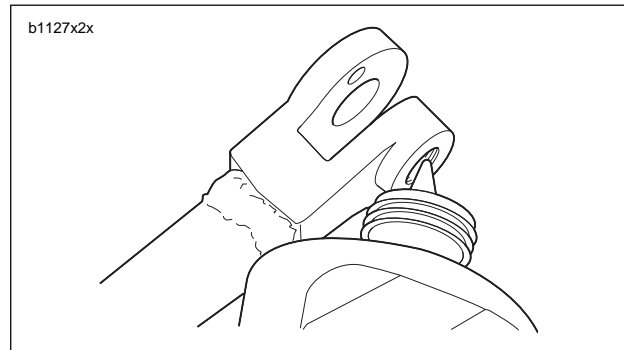

Figure 2-133. Threaded Area for Loctite Application
- b. See Figure 2-133. Apply LOCTITE 272 (Red) to threaded area (clevis) of sidestand leg.